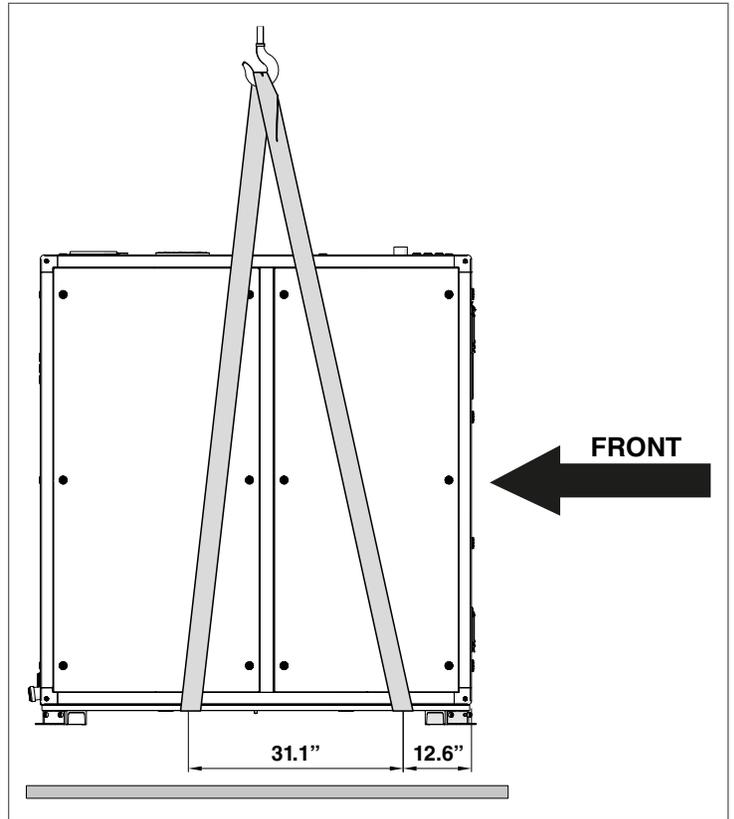
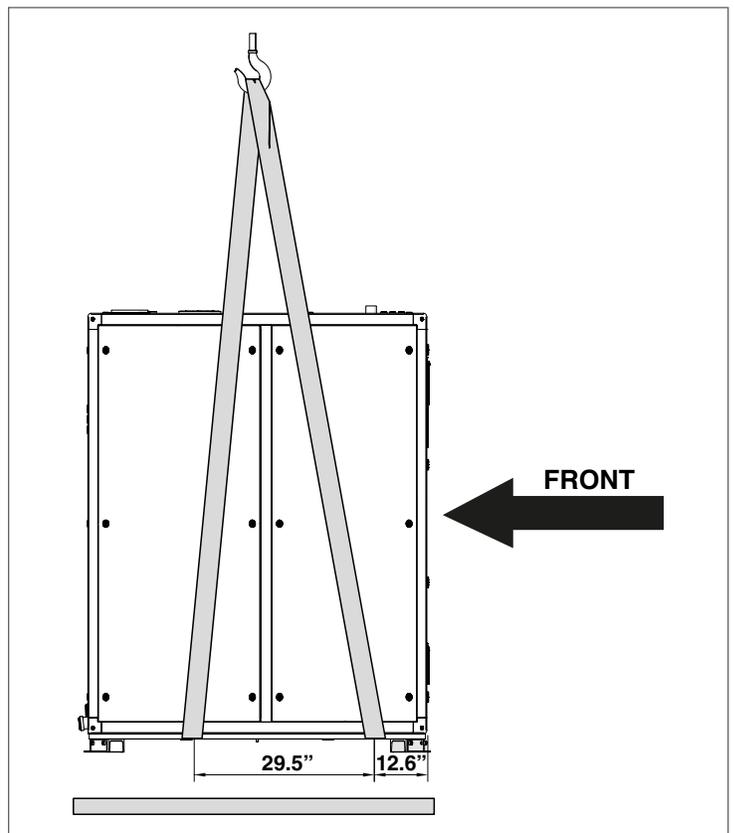

Fig. 6 Array AR 1000, AR 1500 Crane Lifting Handling
Fig. 7 Array AR 2000 Crane Lifting Handling
**⚠ WARNING:** When lifting the boiler with crane: use bands or straps, no chains. Bands must comply with federal, state and local rules. The bands must be positioned as shown in Fig. 6.
**⚠ WARNING:** When lifting the boiler with crane: the bands must be positioned according to the Fig. 6 and Fig. 7.